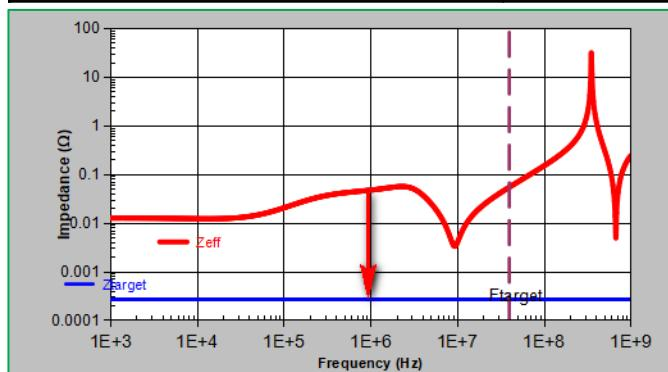

Figure 2. A Real Project PDN Impedance Design
- ✓ The calculated  $Z_{target}$  is extremely low as illustrated in Figure 2